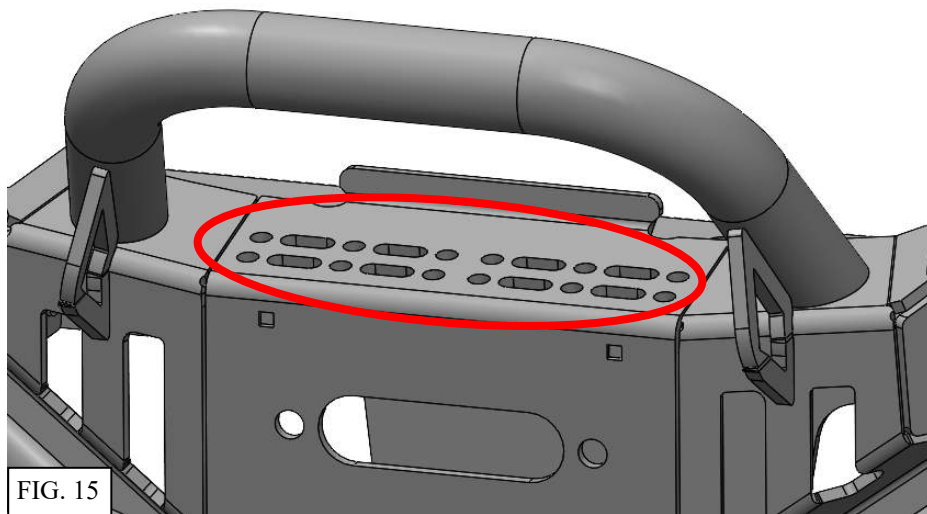

FIG. 15
- This bumper allows for the mounting of two 3” square auxiliary lights at the location shown below using M8 hardware (Fig. 15).